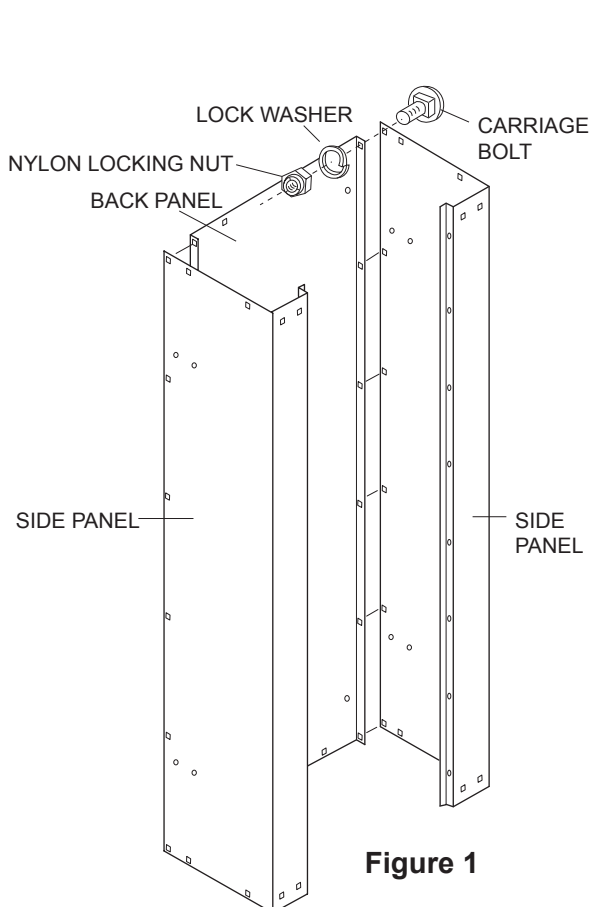

Figure 1
For easy assembly, stand the panels up as shown. Assemble each side with (6) Carriage Bolts, Lock Washers and Nylon Locking Nuts. Hand tighten the bolts at this time. (See Figure 1)